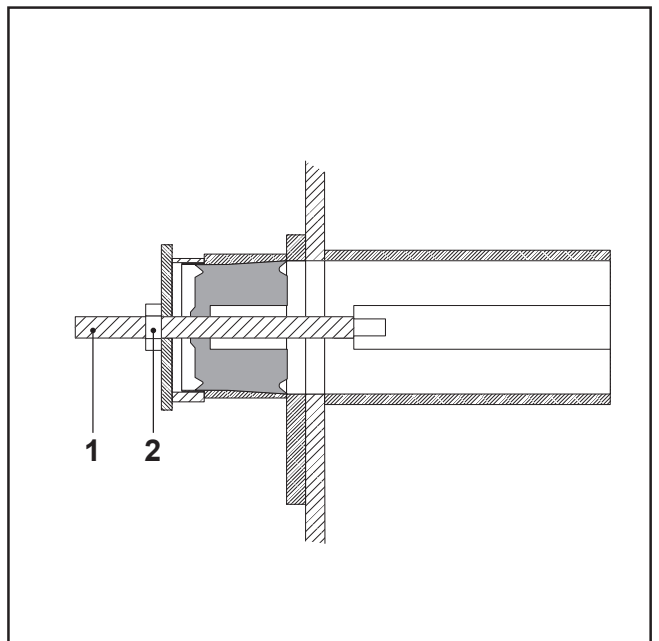

FIG.66
- Screw the M20 threaded rod (FIG. 66-REF. 1) onto the piston head, screw on the nut (FIG. 66-REF. 2) and pull out the piston.